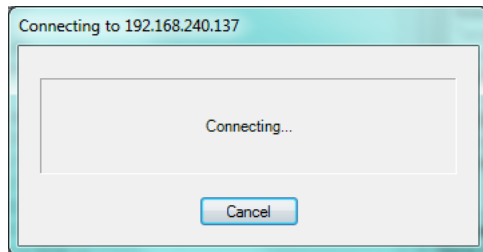

FIG. 51 Connecting dialog
2. Select **Tools > Send** or click the toolbar button. This action prompts IREdit to make the device connection specified in the *Communications Settings* dialog (FIG. 51).